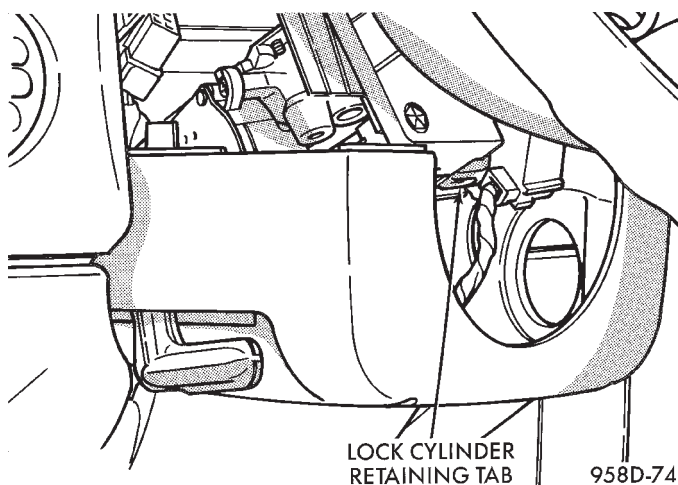

Fig. 73 Lock Cylinder Retaining Tab
- (1) Disconnect negative cable from auxillary jumper terminal.
- (2) Remove upper steering column shroud.
- (3) Pull lower shroud down far enough to access lock cylinder retaining tab.
- (4) Place key cylinder in RUN position. Depress retaining tab and remove key cylinder (Fig. 73).